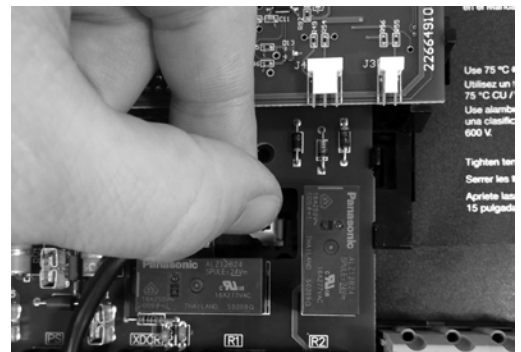

Figure 8
10. Reconnect the fan cable (Figure 8).